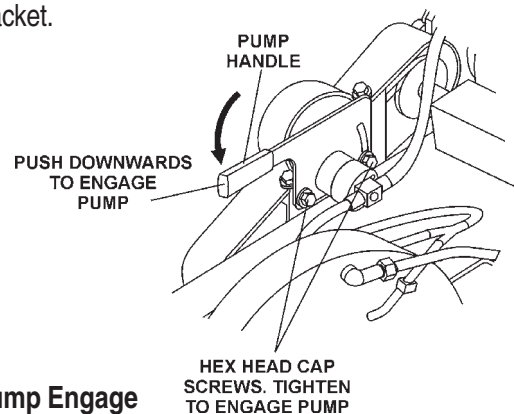

Figure 16. Pump Engage
1. Loosen the 2 hex head cap screws (Figure 16) that secure the pump mount bracket.